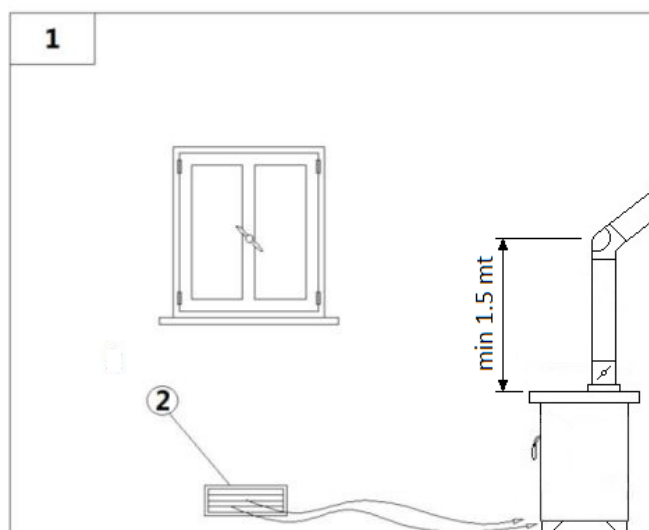

Fig. 7 - Direct air inflow
LEGEND Fig. 7 page 9
- The air inflow from outside to the inner occurs directly, through an opening on the external wall of the room (see Fig. 7 page 9).